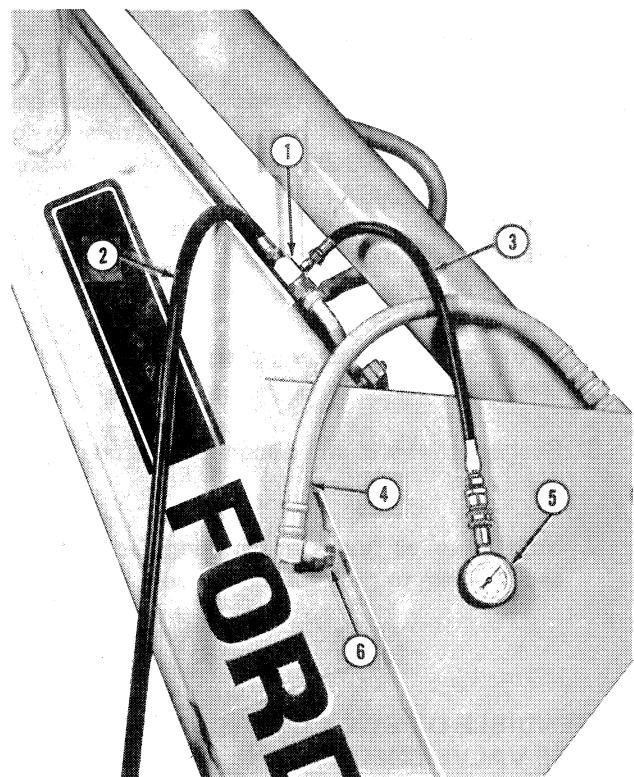

Figure 20
Refer to Figure 20. Warm the hydraulic oil to 165° F. (73.8° C.) by operating the backhoe for approximately 15 minutes before installing the test fittings.
3. Disconnect the crowd piston hose and cap as shown in Figure 20.
4. Connect the N1100-HS hose (2) to the CR2 fitting (1) and connect the CR2 fitting to the piston port as shown.
5. Install a 5000 psi (344.7 bar) gauge (5), Tool No. D-22, and hose assembly (3), Tool No. D-19-HP to the CR2 fitting. Securely tighten all fittings.